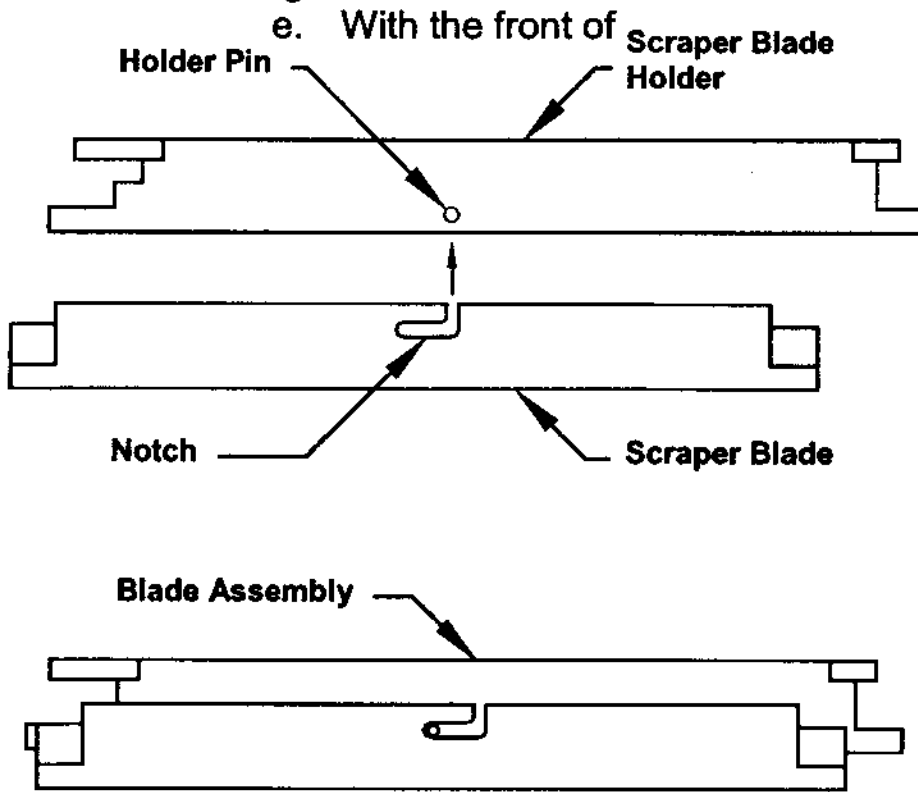

Fig. 17
- d. Place the scraper blades over the scraper blade holders so the holder pins fit into the blade notches as shown in Fig. 17.